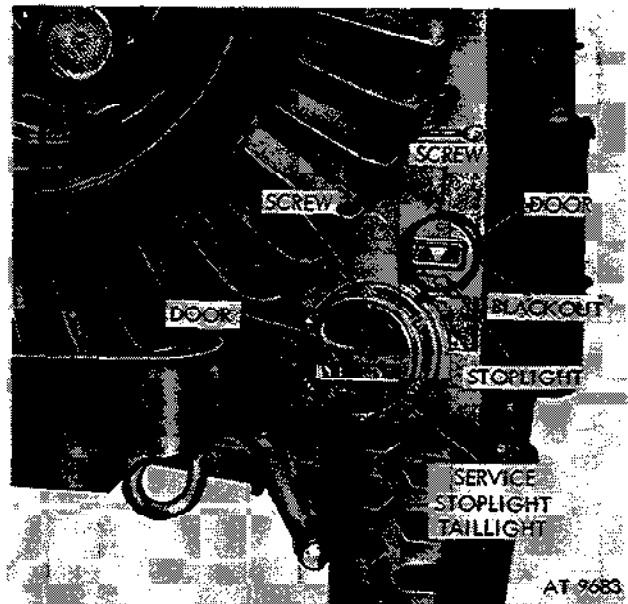

Figure 2-206. Remove door from light housing (M151, M151A1, M151A1C, and M718).
(1) Remove six screws securing door to light housing. Remove door (fig. 2-206).
(1) Remove the two screws securing the blackout signal lamp door assembly (fig. 2-206) to the blackout door gasket.
(2) Remove the door assembly and gasket.
(3) Press in on the blackout lamp and turn counterclockwise to remove from socket. Install new lamp. Install gasket, door assembly and two screws.